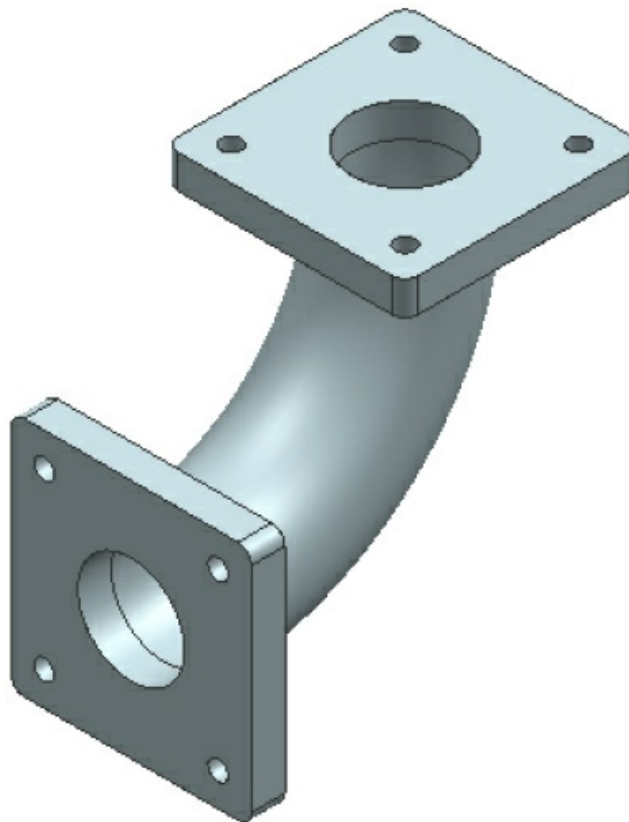

Figure 7-119 Final model for Tutorial 3
11. Similarly, create the counterbore hole on the bottom face of the top extruded feature and then create a linear pattern of counterbore holes on the bottom face of the top extruded feature. The final model for this tutorial is shown in Figure 7-119.